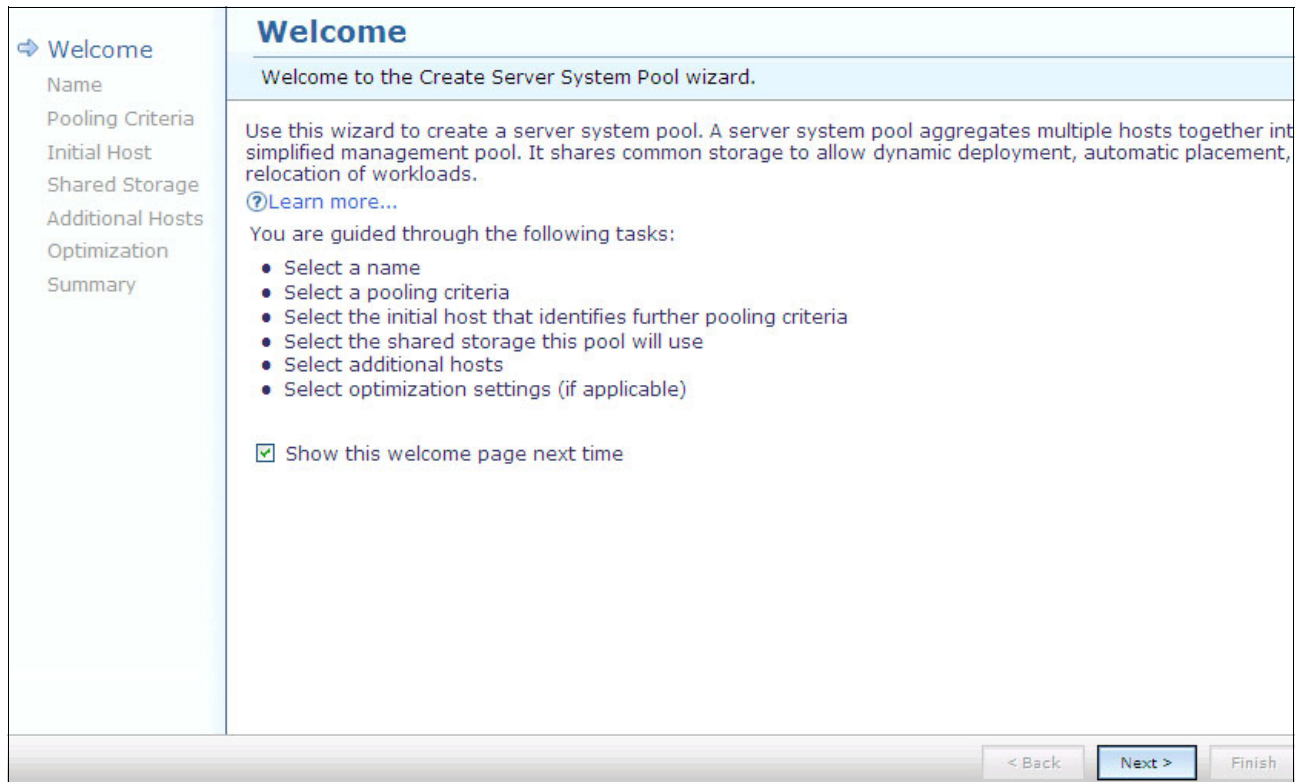

Figure 9-94 Server system pool Welcome window
3. The Welcome window to create a server system pool opens as shown in Figure 9-94 on page 367. Click **Next**.